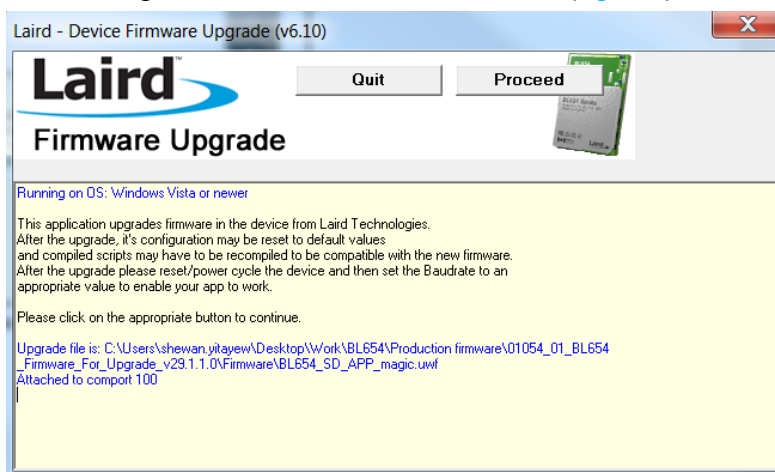

Figure 4: Screen confirming firmware version
10. The following screen confirms the firmware version (Figure 4).